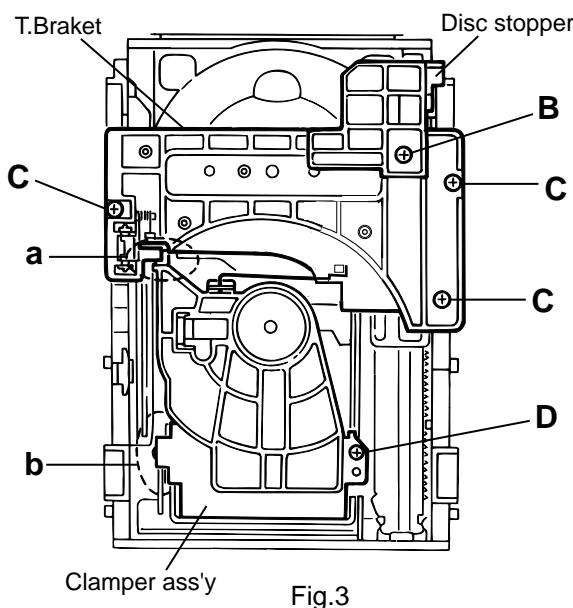

Fig.3
5. Remove the screw **B** retaining the disc stopper (See Fig.3).
6. Remove the three screws **C** retaining the T.bracket (See Fig.3).
7. Remove the screw **D** retaining the clamper assembly (See Fig.3).